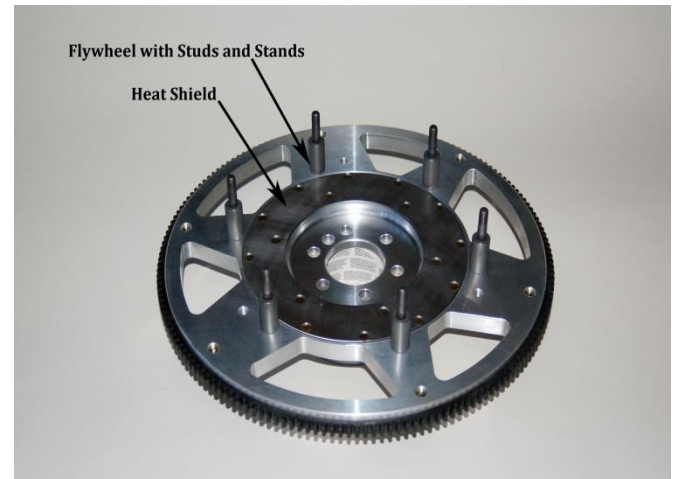

Figure 5
- 6) This aluminum flywheel includes a heat shield for the disc contact surface to greatly improve durability. These flywheels may also include a bolt on counter balance weight to match your engine requirement. See Figure 5